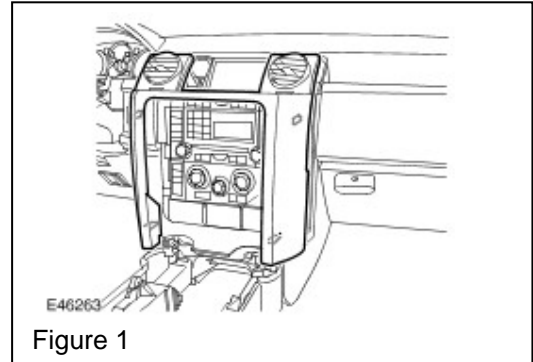

Figure 1
1. Remove the instrument panel console. (Figure 1)